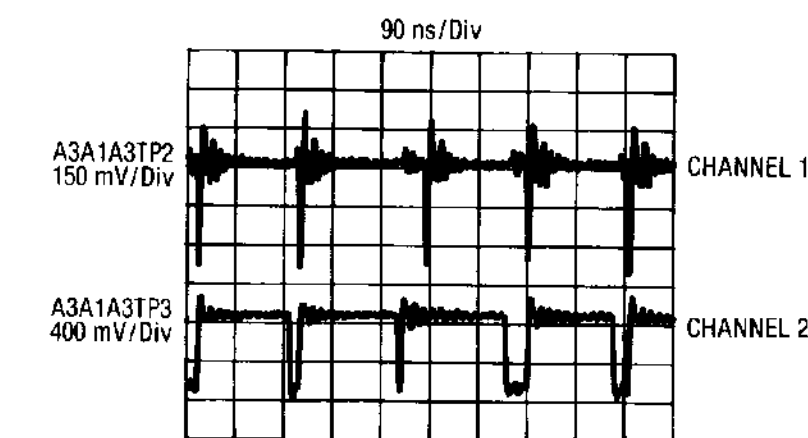

Figure 8-63. A3A1A3TP2 and TP3 Waveforms
18. Connect the oscilloscope to A3A1A3TP3 and TP2. Press RCL 0. Observe the waveform which should be as shown in Figure 8-63. Repeat this step for A3A1A3TP4. If the waveforms are not as shown, the Phase/Frequency Detector U1 is faulty and should be replaced.